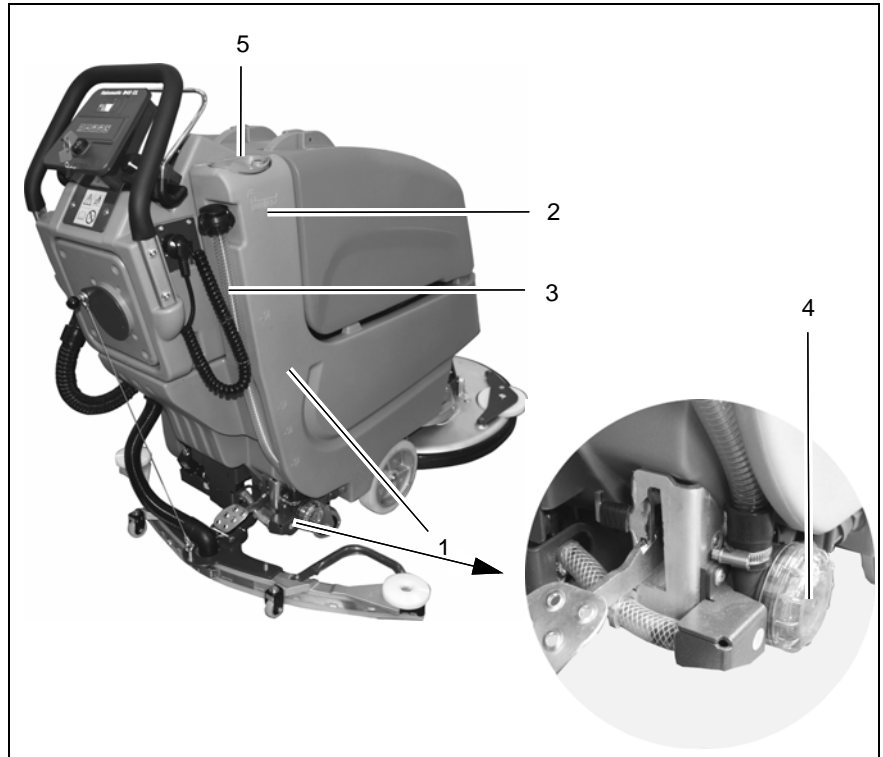

Fig.13
Fill the solution tank (Fig. 13/1) before starting work or as necessary. Park the vehicle on a level floor area.
Open the tank cap (Fig. 13/5) and fill the solution tank up to the maximum marking (1/1)(Fig. 13/2).
Park the machine so that the fill level hose (Fig. 13/3) is above a drain in the floor. Remove the fill level hose from the holder and remove the cover.
Check the solution filter (Fig. 13/4) weekly and clean or replace it as necessary.
1. Empty the solution tank (Fig. 13/1), see paragraph 5.5.2.